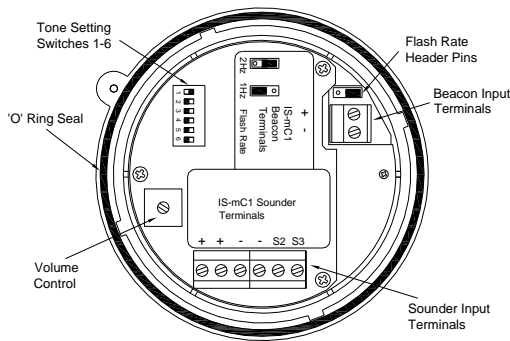

Fig 2 Location of field terminals and controls.
Power is supplied to the sounder section via the sounder input terminals + and - on the sounder PCB (see Fig 2) and the terminals have the following input safety parameters:
Power is supplied to the beacon section via the beacon input terminals + and - on the beacon PCB (see Fig 2) and the terminals have the following input safety parameters:
- Fit the required number of 20mm cable glands or conduit entries into the base and connect the field wiring to the appropriate sounder terminals as shown in section 6 and fig 2 of this manual. The power supply terminals + and - are duplicated so that sounders may
- Select the required sounder output tone by positioning the six switches as shown in Table 1 and Fig 2.
- Check that the 'O' ring seal is correctly located on the sounder/beacon section (see Fig. 2) and insert the sounder/beacon section into the base. Push it fully home and turn it clockwise to align the mouldings before tightening the security screw.
**Tone Selection** – To select the required first stage tone set the tone switches 1 to 6 (see Fig 2) to the tone setting shown in the table below. The table also shows which 2nd and 3rd stage tones are available for use with the selected first stage tone if more than one tone output stage is required.